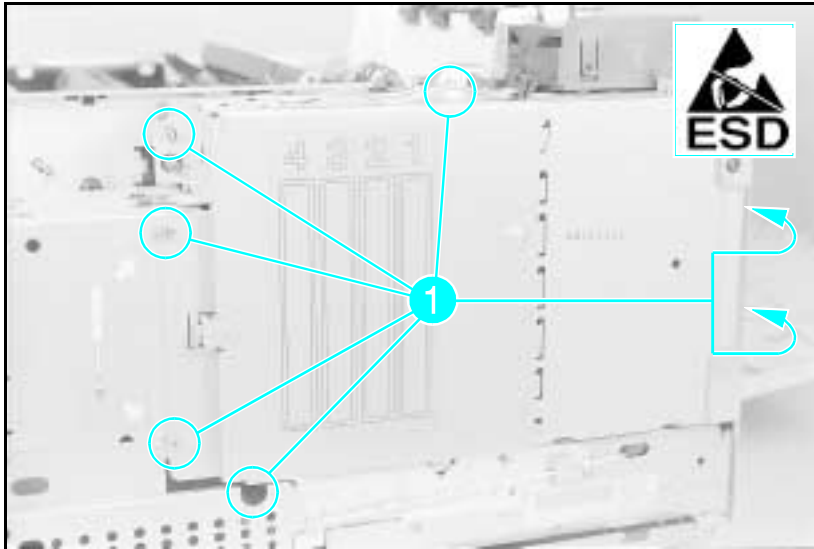

Figure 6-24a **Formatter Cage Screws (Right Side View - LaserJet 4 and 5)**
- 2 LaserJet 4 and 5:** Remove the (7) screws (6 screws in the LJ 5) shown in Figure 6-24a. (2) screws are on the right rear of the printer, (1) screw is under the lower front of the Formatter Cage (except LJ 5).